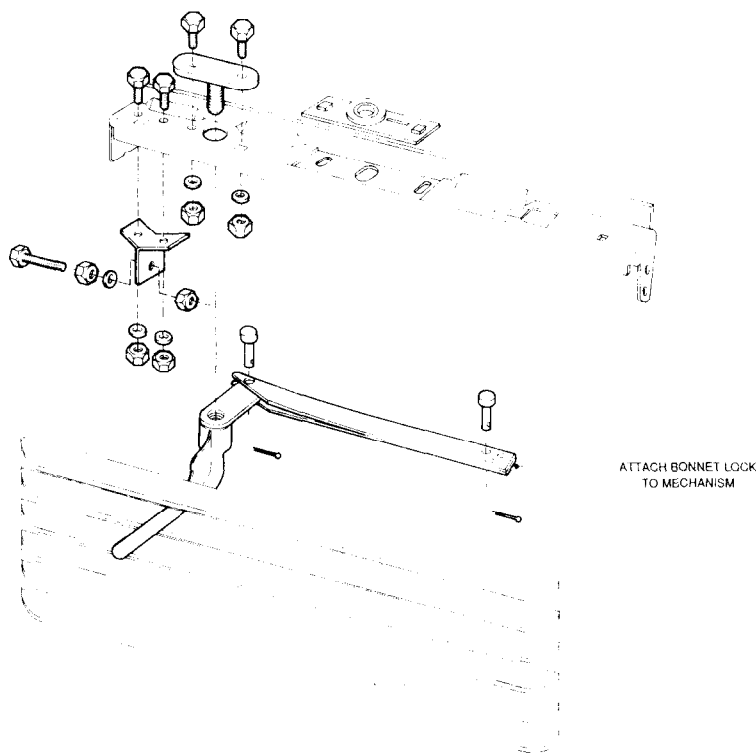

FIG 2 - EXTERNAL BONNET MECHANISM
- j. Secure link (Item 11) to relay (Item 10) using Items 12 and 13 as shown in Fig 2.
- k. Position relay below top grille panel and screw pivot plate (Item 3) downwards into relay through 16mm hole. A gap of approximately 15mm should be left between the top of pivot plate and relay, secure with Items 2, 6 and 7 as shown in Fig 2.
- m. Assemble stop screw (Item 9) to anchor bracket (Item 8) using Items 4 and 5 as shown in Fig 2.
- n. Fit anchor bracket to under side of top grille panel as shown in Fig 2 using Items 1, 6 and 7.